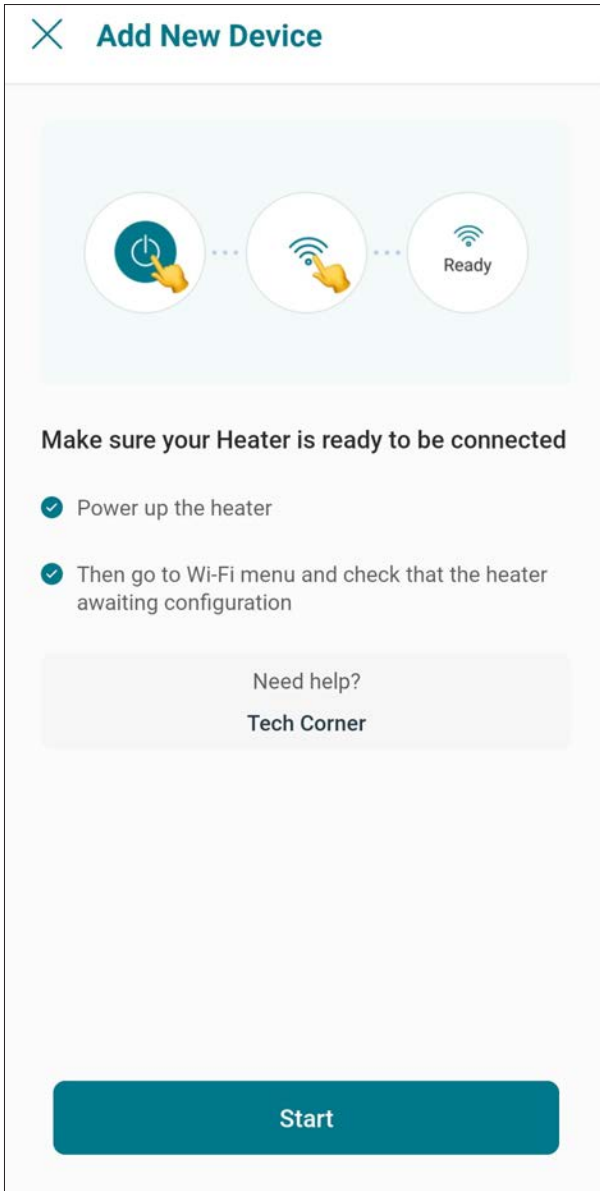

Figure 97. Check your Unit
4. "Check your Device" screen will appear. Ensure to have the heater powered and Wi-Fi signal available in the area, then press "Ready" button. See Figure 97.